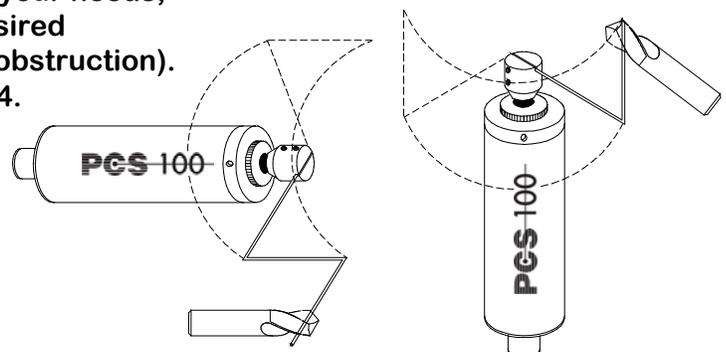

Figure 4: Bent Needle examples
- If a straight Needle does not suit your needs, the Needle may be bent into any desired configuration (ex: to swing past an obstruction). Two examples are shown in Figure 4.